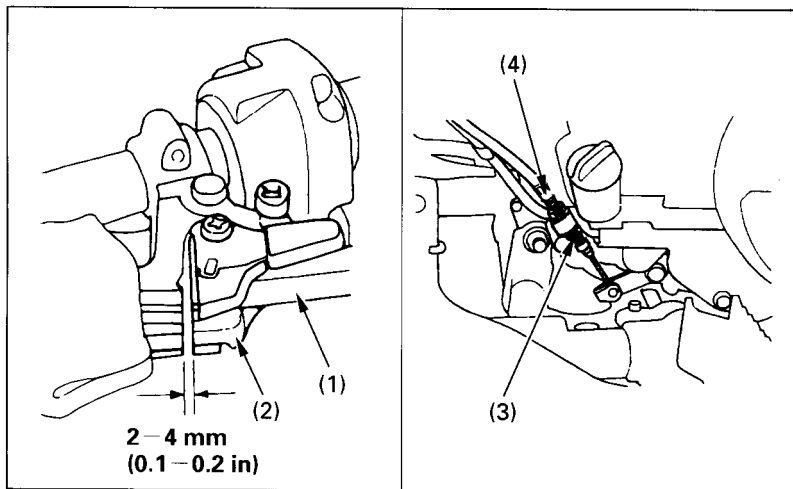

Fig. 4-19 (1) Rear brake lever
Measure the reverse assist lever (2) free play. Free play, measured at the lever (2) end near the cable (Fig. 4-19), should be approximately: